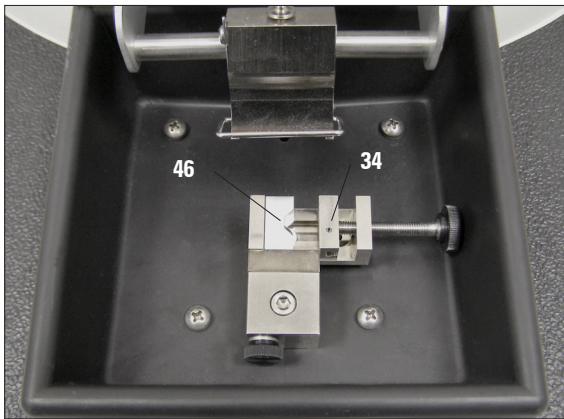

Fig. 20
- First, insert the V-block adapter (46) into the tensioning clamp (46) as shown in Fig. 20.